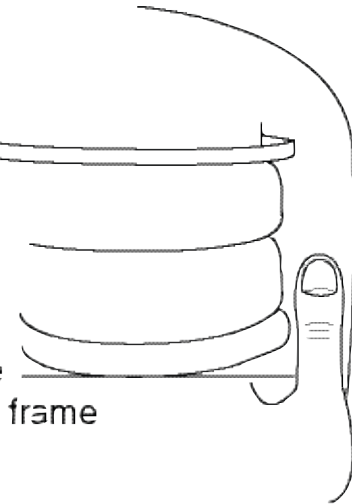

fig. 6
Keep a finger's width between the roll plate (D) and frame (Figure 6).